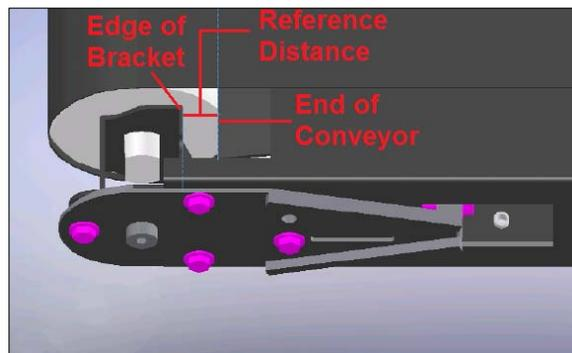

Figure 50: Reference Distance
Figure 50 shows a conveyor assembly with a Type 1 bracket. The distance between the edge of the conveyor and the edge of the bracket (as shown in the figure) is known as the “**Reference Distance**.” We use the Reference Distance to determine the optimum tension of the conveyor belt.
5. Loosen the mounting bolts on the conveyor bracket and move the bracket so that the Reference Distance is between 0.6in and 1.0in, measured from the edge of the conveyor to the edge of the bracket as shown in Figure 50.